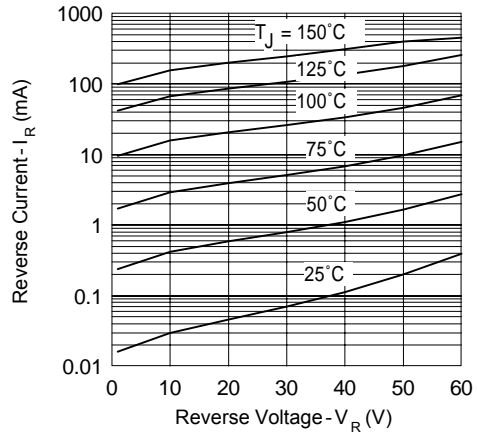

Fig. 2 - Typical Values Of Reverse Current Vs. Reverse Voltage
| I_{RM} Max. Reverse Leakage Current (Per Leg) * See Fig. 2 (1) | 1.1 | mA | $T_J = 25^\circ\text{C}$ |